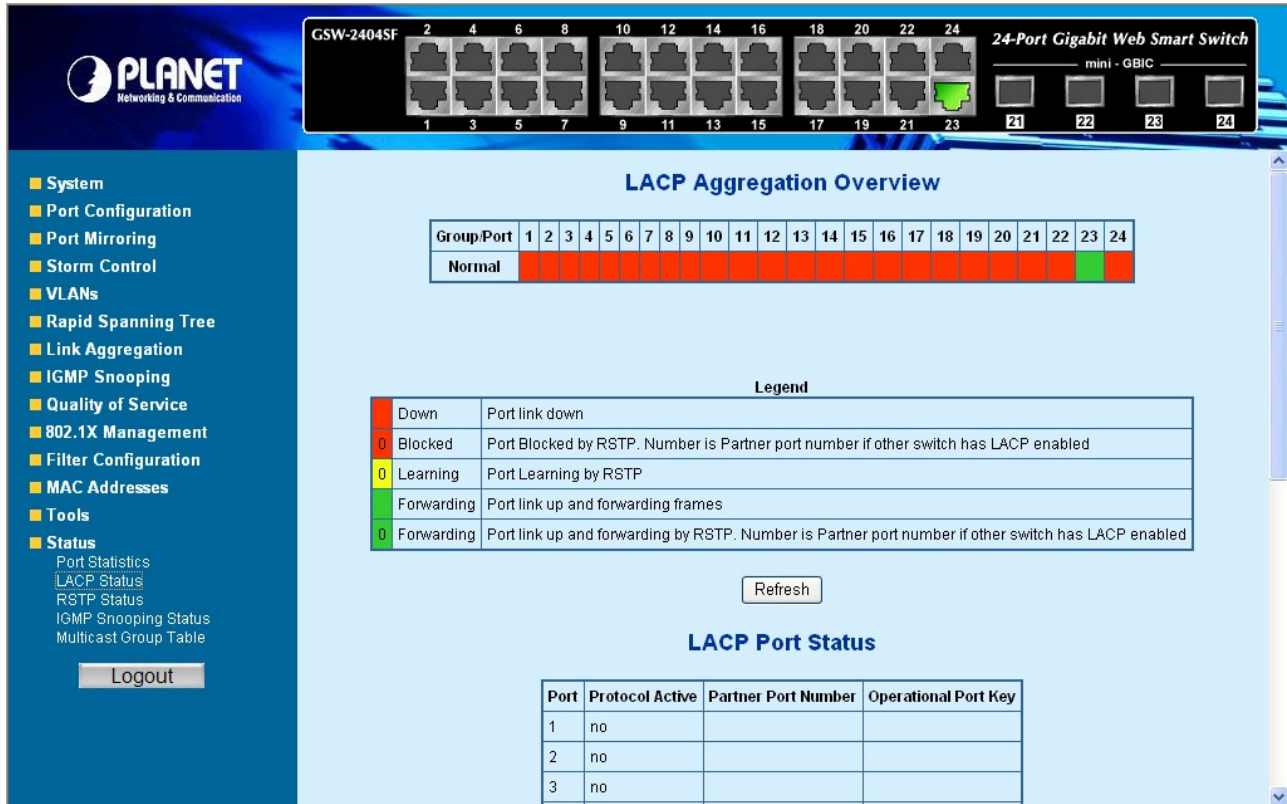

Figure 4-32 LACP Status
2. The “LACP Aggregation Overview” and “LACP Port Status” screen is displayed as in Figure 4-32.